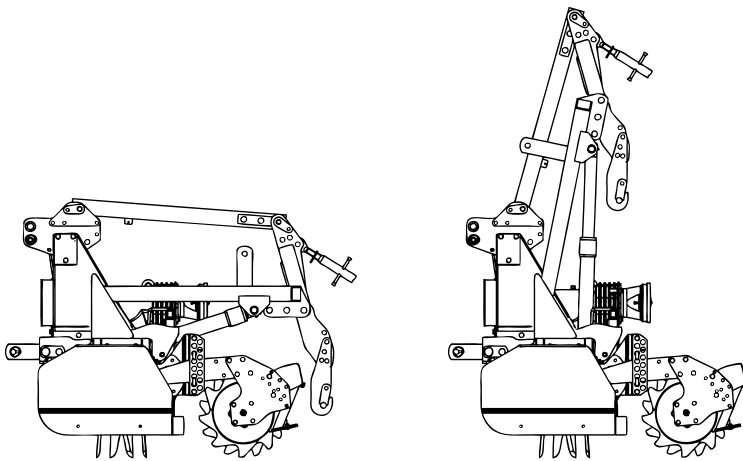

Fig. 8
4.4 COMBI MACHINE WITH SEED DRILL (Fig. 8)